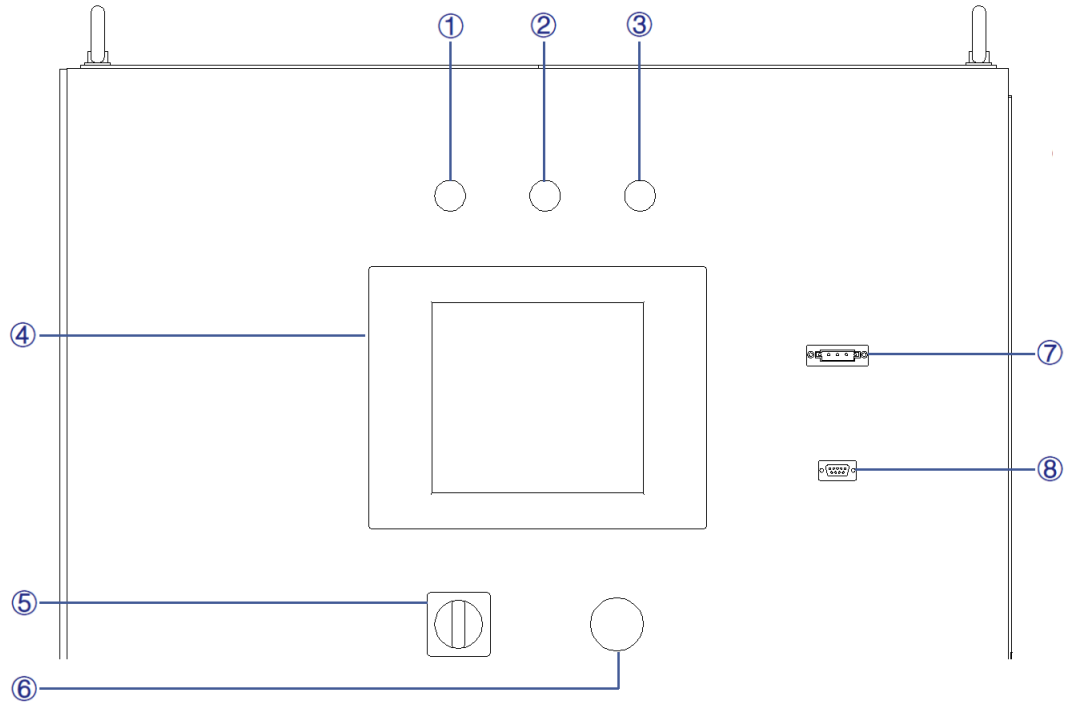

Figure 3-6
Step 2: Turn the power knob counterclockwise (Figure 3-6⑤);